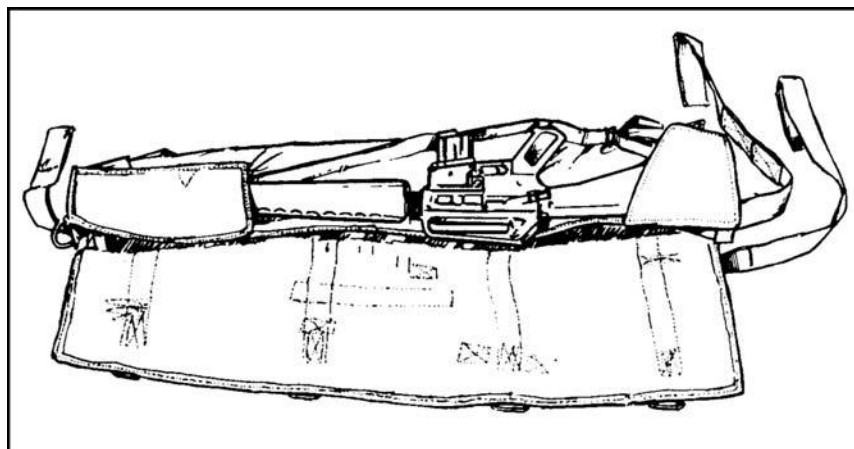

Figure 12-49. Positioning the M16.
(1) Insert a 20-round magazine into the rifle (optional).
(2) Secure a 30-round magazine to the sling of the rifle, using adhesive tape (optional).
(3) Insert the rifle muzzle into the muzzle stow pocket and place the butt in the rifle butt stow pocket as shown in Figure 12-49. Ensure that the magazine well and pistol grip point toward the side securing straps, and the rifle muzzle is inserted into the muzzle pocket as far as possible.